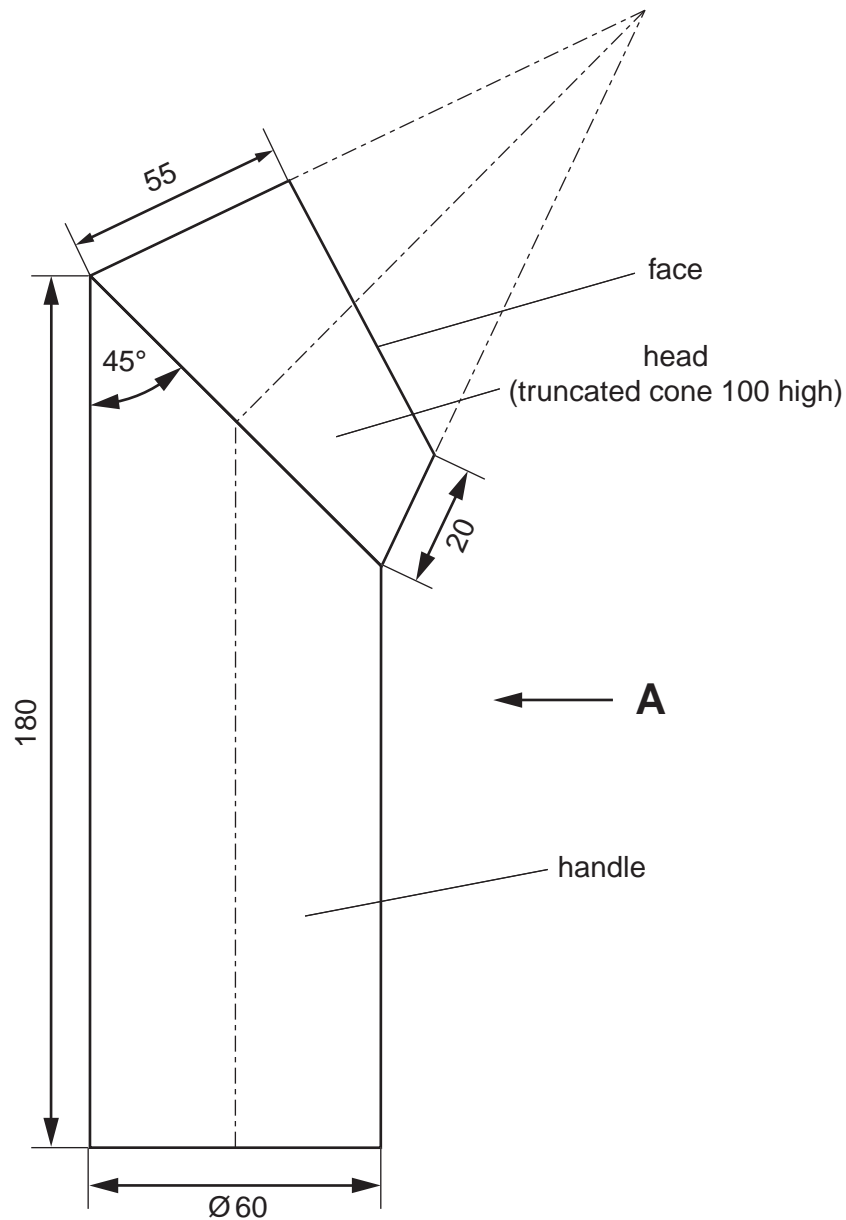

Fig. 5
- 8 Fig. 5 shows a prototype design for a torch made in card.